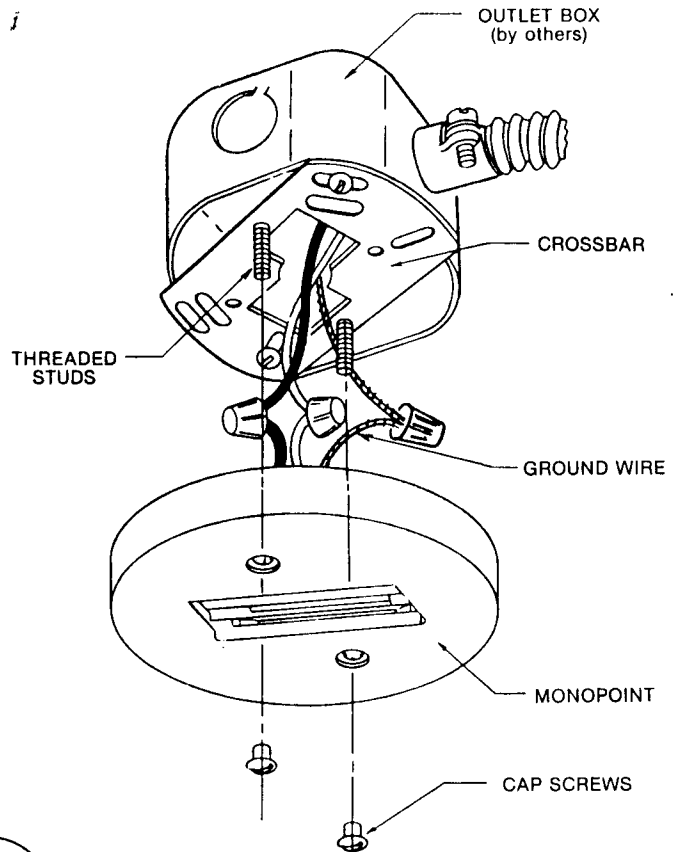

FIG. 1
2. Attach CROSSBAR with THREADED STUDS to OUTLET BOX as shown in Fig. 1 and 2.
4. Place wire connections into OUTLET BOX and fasten MONOPOINT (or MULTIPPOINT) to THREADED STUDS with CAP SCREWS (Fig. 1 and 2).